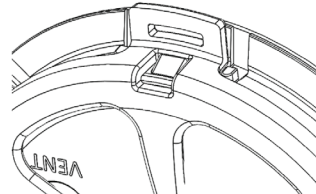

FIGURE 7
- 3.7 Install retaining ring onto collar so that snaps engage all around. **See Fig 7.**